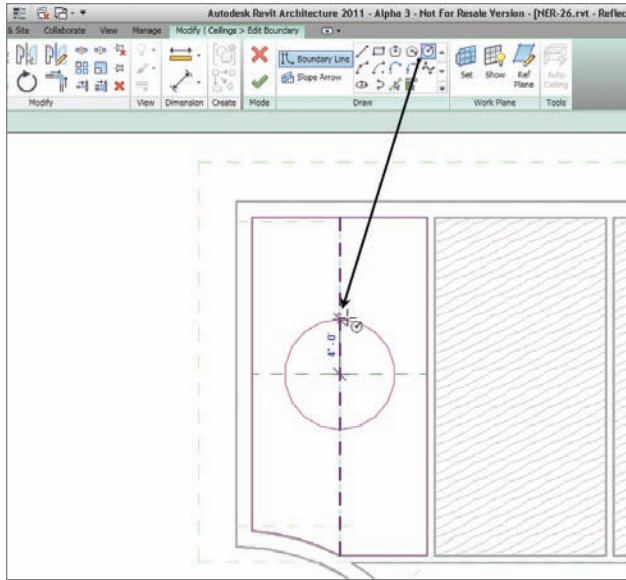

FIGURE 9.25 Sketching a 4'-0" radius circle
8. On the Draw panel on the Modify | Ceilings > Edit Boundary tab, click the Boundary Line button. When you do, you will see an expanded list of sketch choices. Pick the Circle choice, as shown in Figure 9.25.
9. Draw a 4'-0" radius circle at the intersection of the reference planes (see Figure 9.25).